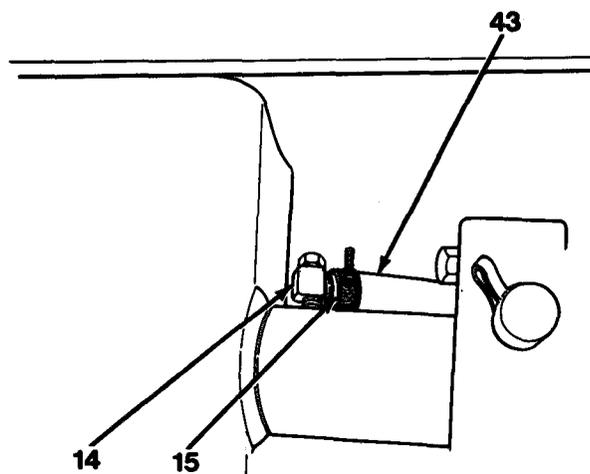
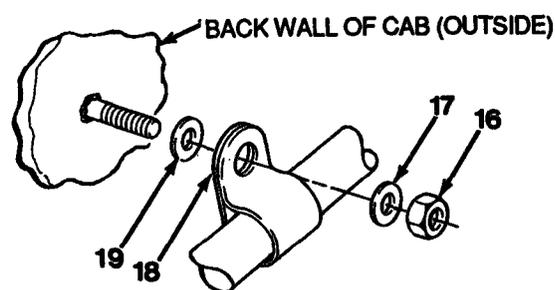

Figure 17-2
Figure 17-3
5. Remove nut (2), lockwasher (3) and wire assembly (4).
6. Disconnect wire assembly (5) from wire assembly (6).
7. Remove three nuts (7) and lockwashers (8).
8. Remove heater assembly (9) from vehicle.
9. Loosen clamp (11) and remove hose (10).
10. Remove clamp (11).
11. Remove grommet (12).
12. Remove valve (13).
13. From outside rear of cab, loosen clamp (15) and disconnect hose (43) from 90-degree elbow (14, Figure 17-2).
14. Remove 90-degree elbow (14).
15. Remove clamp (15) from hose (43).
16. From outside rear of cab, remove nut (16), washer (17), clamp (18) and washer (19, Figure 17-3).